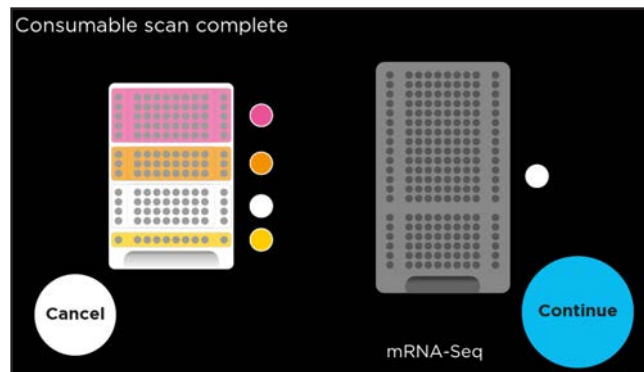

Figure 11. The consumable barcodes are scanned by the MagicPrep NGS instrument.
5. Once the door is closed, the reagent cartridge and sample deck barcodes are scanned to ensure all consumable components are present and determine the protocol to run (Figure 11).